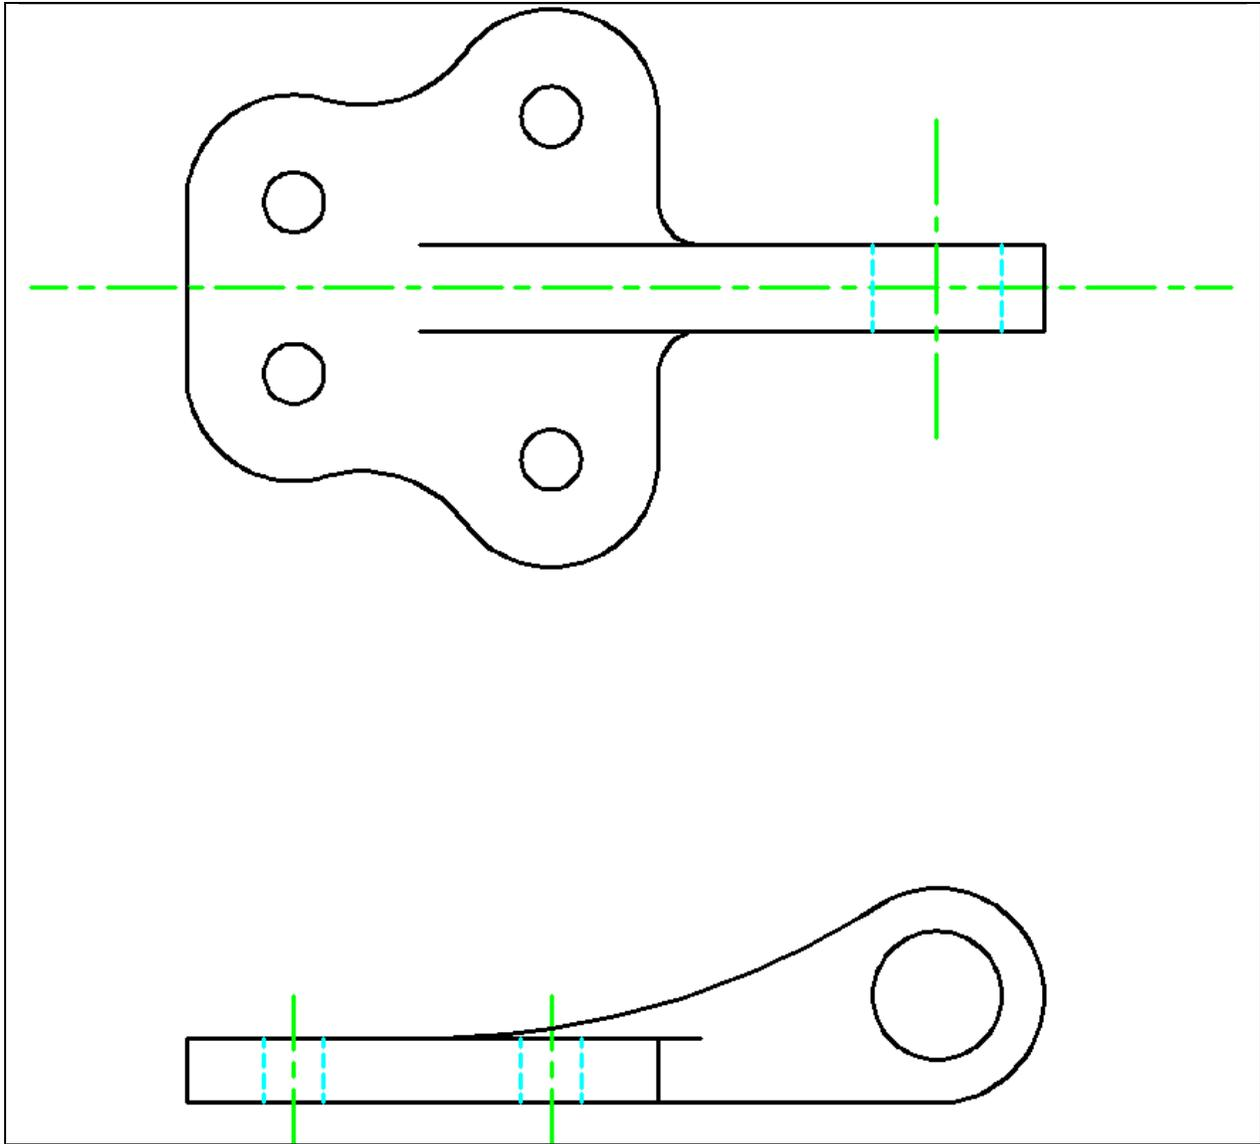

Figure 10.35 – The Bracket problem
Figure 10.35 shows a properly drawn Bracket problem for your reference.
* World Class CAD Challenge 02-21* - Create a New file using the Metric template, and draw the 39 entities shown in Figure 10.35 in 3 minutes 15 seconds. Continue this drill four times, each time completing the drawing in less than 3 minutes 15 seconds to maintain your World Class ranking.